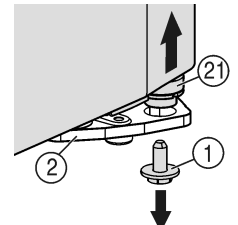
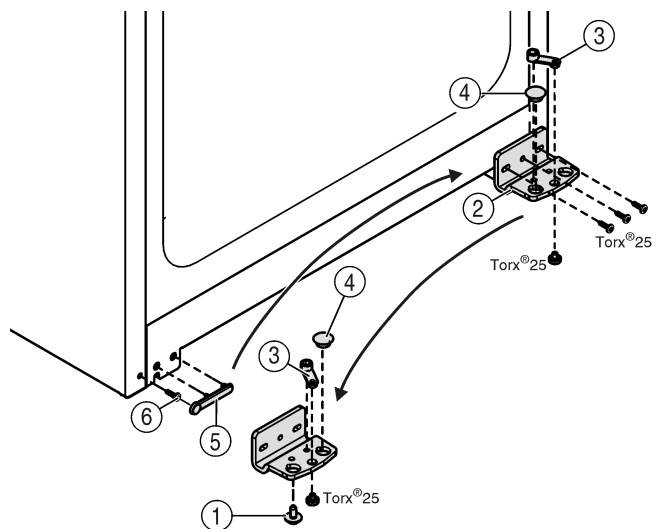

Fig. 5
Fig. 6
- ▶ The bearing pin Fig. 5 (21) should come out of the turn hinge Fig. 6 (2).
- ▶ If the bearing pin Fig. 5 (21) does not come out, press the pin out from underneath.
- ▶ Unscrew the turn hinge Fig. 6 (2).
- ▶ Unscrew the bearing element, Fig. 6 (3) transfer it to the opposite location hole of the turn hinge and screw it firmly into place.
- ▶ Take the stopper Fig. 6 (4) out of the turn hinge and transfer it to the receiving hole on the opposite side of the turn hinge.
- ▶ Carefully lift off the cover Fig. 6 (5) on the handle side.
- ▶ Undo the screw Fig. 6 (6) and transfer it to the opposite side.
- ▶ Put the cover Fig. 6 (5) back on.
- ▶ Screw the turn hinge Fig. 6 (2) firmly into place on the new hinge side (with 4 Nm), possibly using a power screwdriver.
- ▶ Insert the securing screw Fig. 5 (1) at the bottom into the bearing pin and tighten it (**with 4 Nm**).